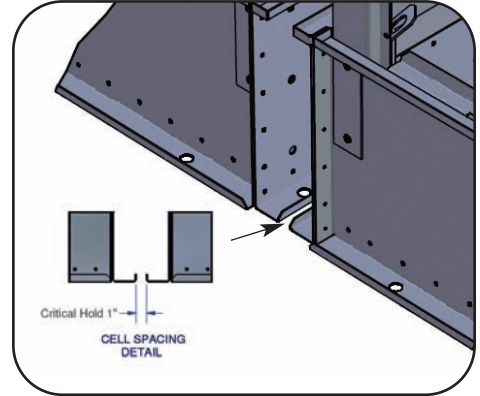

Figure 7
6. Position Cell #2 on the unit supports, exactly 1" between casings (Figure 7). Wipe down the mating surface by the flume opening to remove any dirt or moisture.